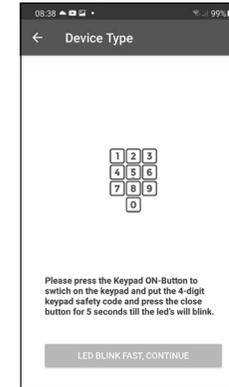

Fig. 21
⑧ This takes you to the menu illustrated (Fig. 21). Briefly lay the smartphone aside and set the keypad to programming mode using the following steps.